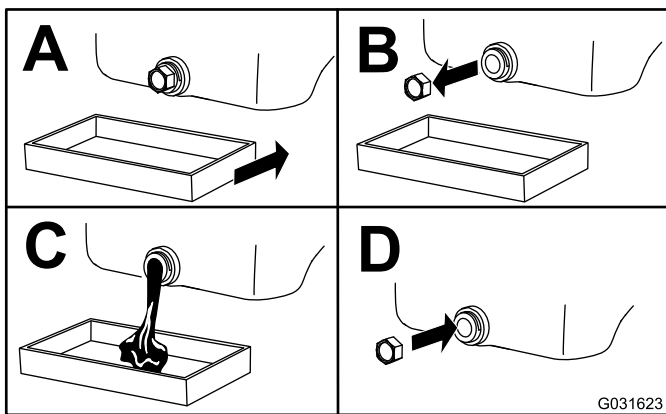

Figure 47
- Change the engine oil as shown in Figure 47.